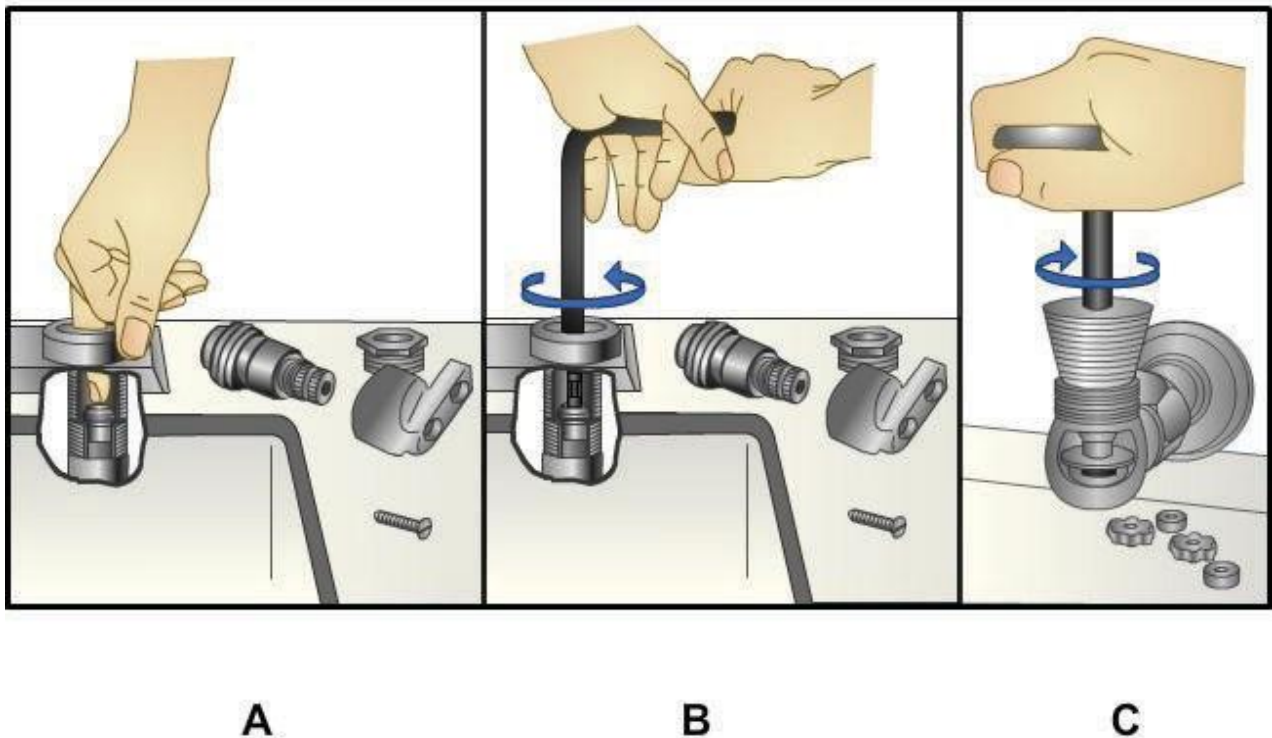

Figure 6-42 — Inspecting, removing, and refacing faucet seats.
4. If the brass screw is in poor condition, replace it with a new one (*Figure 6-42, View A*).
5. Examine the valve seat and repair or replace it with a new one (*Figure 6-42, View B*), if necessary, before replacing the spindle; otherwise, a new washer provides adequate service for only a short time.
6. Reface or ream solid seats (*Figure 6-42, View C*) with a standard reseating tool consisting of a cutter, stem, and handle. Rotate the tool with the cutter centered and held firmly on the worn or scored seat. Take care to prevent excessive reaming. Remove all grinding residue before reassembly. A solid seat can be replaced with a renewable seat by tapping a standard thread into the old solid seat and inserting a renewable seat.